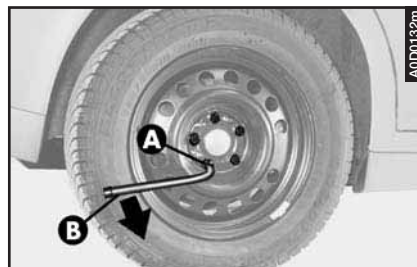

fig. 5
– Using the L-wrench (**B-fig. 5**) provided, loosen the fastening bolts (**A**) by about one turn.